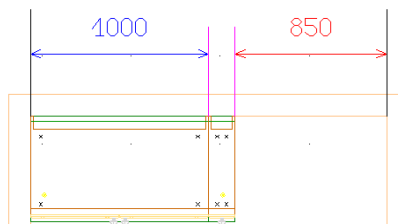

Fig. 161 – not enough room to insert a cabinet wider than 850 mm
- **red** – indicates the same distance as green but if it has turned red it means that there is no more space to locate chosen cabinet (Fig. 161).